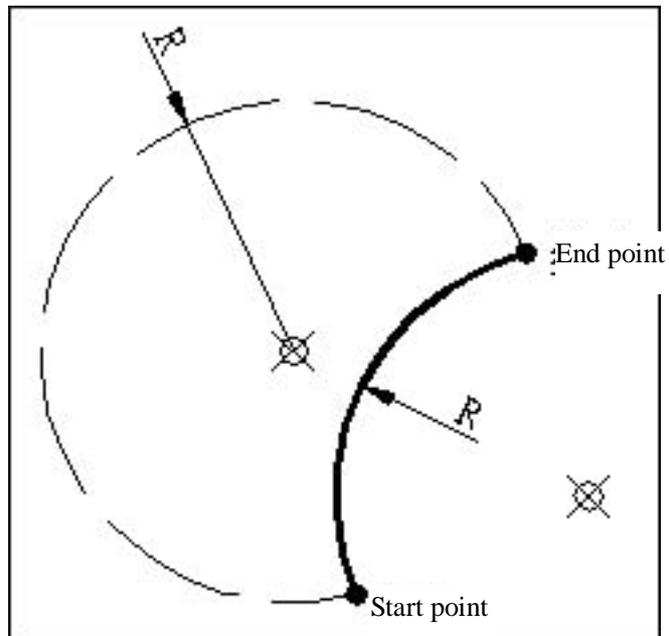

Fig. 3-4-4
- I When in G02/G03 program segment I and K instruction characters are used to define the center of circle, even if the end point is not on the circular arc, the system won't alarm. The locus can be described as: Based on the center of circle, it moves along the circular arc on both axis X and axis Z. When the coordinates on axis X is the same as that on axis Z, axis X or axis Z will stop moving, and the other axis (axis Z or axis X) will go on moving till the end point is reached. See Fig. 3-4-4 below.